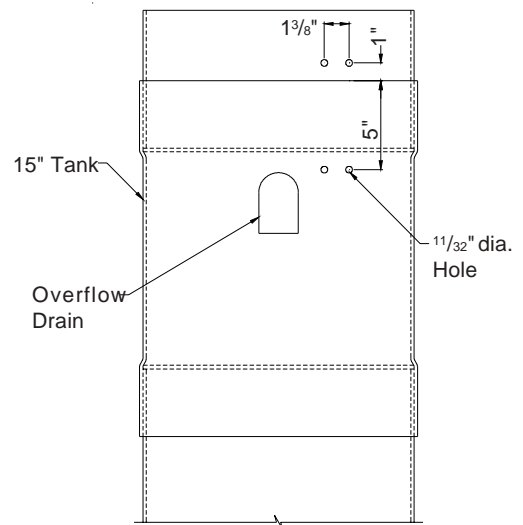

Figure 22C
- 11) On the cooling system tank kit drill (4) 1¹/₃₂" dia. holes as shown in **Figure 22C.** The holes should be located on the side of the tank kit that is away from the building, and so that the float assembly can swing freely and is not obstructed by anything.